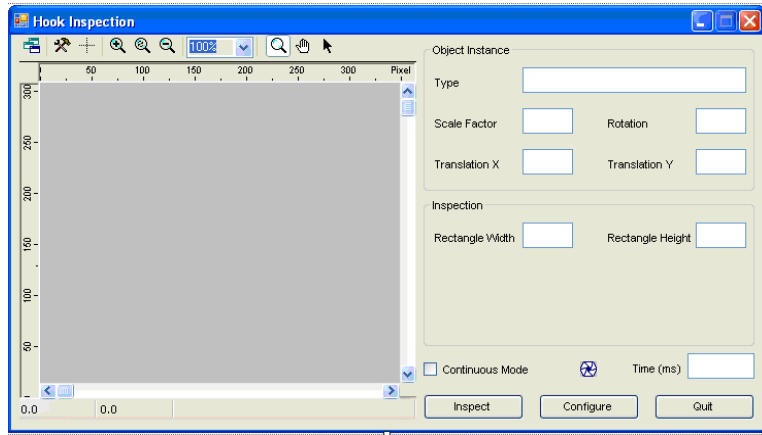

Figure 96 C# Form for Tutorial 3
1. On your application form, add a group box named **InspectionFrame** and add two text boxes, the first text box named **WidthText** and the second **HeightText**. Set up your form as illustrated in Figure 96.